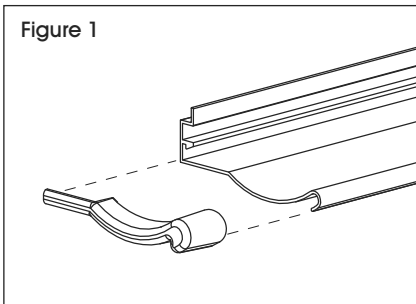

Figure 1
1. Align tray end caps with marker tray and press into place. (See Figure 1)